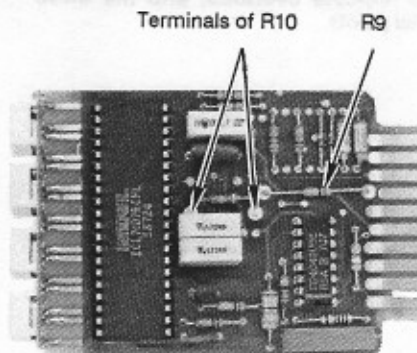

Figure 5. Component Location
3. Observe resistor values that are in unit and compare to figure 5 and table II below. Install values of resistors as specified in table II to attain desired range.